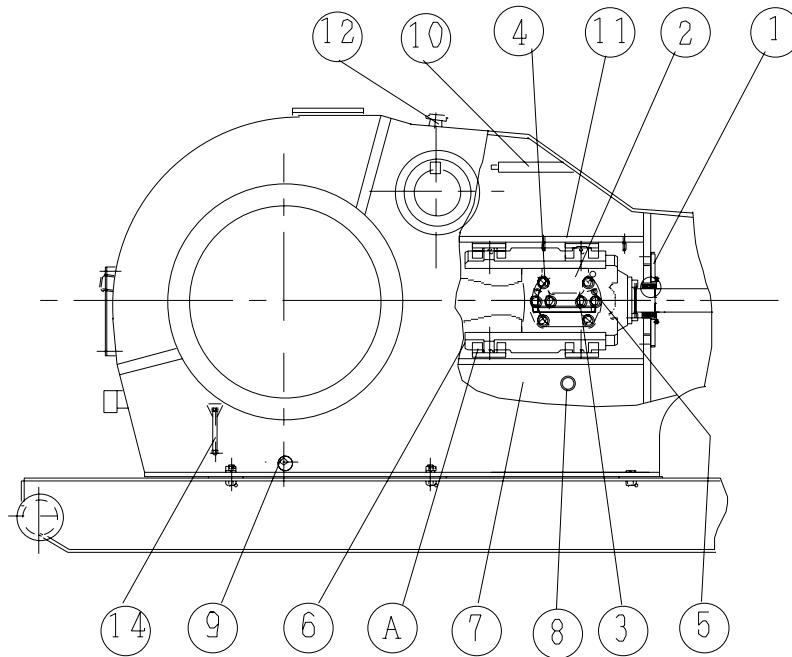

Fig.17 Crosshead assembly
- 4) Check compactness between frame and guides at points A (Fig. 17); it is appropriate that 0.05mm (0.002") feeler can not press into.
- 3) Install the left hand crosshead first, rotate crankshaft assembly to make "eye" into center crosshead and right hand eccentric strap "eye" back, take down mud guard (1 in Fig.17), and push right crosshead to the frame for enough space to install Mid-crosshead and then right crosshead.
4) Install crosshead pin retainer (2) and bolts (3) and rotate pin until the four crosshead retainer holes with crosshead bolt holes (4) are in an alignment. Install the crosshead retainer bolts and tight by hand. Ref. to Fig 17. The oil groove of crosshead pin retainer should be upward.
(1) Mud guard (2) Crosshead pin retainer (3) Bolt (4) Bolt (5) Jack screw bore (6) Lower guide (7) Frame (8) Dirt discharge bore (9) Pipe plug (10) Oil accumulating box (11) Upper guide (12) Air shield (14) Oil level gauge
Strike gently the crosshead large end into cone bore, fasten retainer bolt (3) and (4) (see Fig.17) with torque 225~240 N.m (165~175ft. 1bs) and wire.